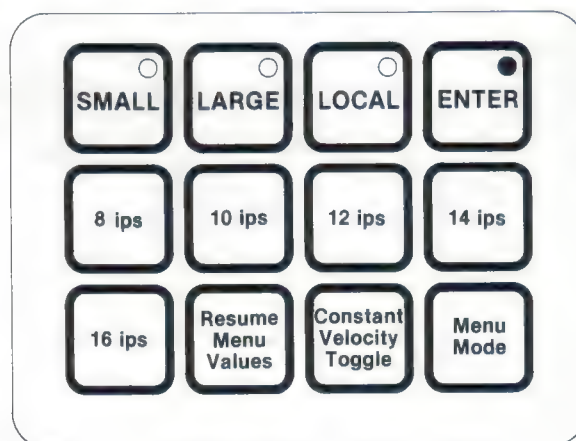

FIGURE 2-3
STATE 2 enables you to toggle the constant velocity option and to make temporary changes to the pen down velocity during plotting activities without having to access the Menu. If the Plotter is placed in STATE 2 from STATE 0 by pressing ENTER, pen down velocities of 8, 10, 12, 14, or 16 ips can be specified by pressing ↓, →, CLIP LL, CLIP UR, or ←, respectively. The constant velocity option can be toggled on and off in this mode by pressing SCALE LL (see Figure 2-3). To resume plotting at the specified Menu values, press ↓.
3. Press ↓ for 8 ips (see Figure 2-3). After ↓ is pressed, the Plotter automatically returns to STATE 0 and continues processing.
4. After the Plotter draws the design at 8 ips, press ENTER for STATE 2. Plotting can be resumed at Menu velocity (16 ips) by pressing ↓ (see Figure 2-3).